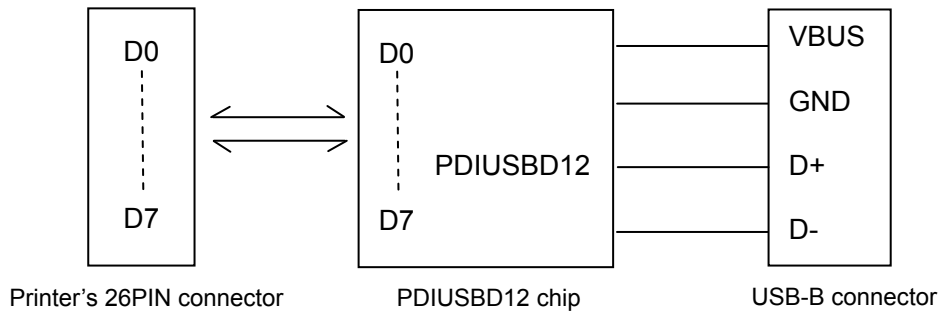

Figure 5-5 Connection figure of printer and computer with USB interface
2. The connection figure of printer and computer with USB interface (as shown in Figure 5-5).